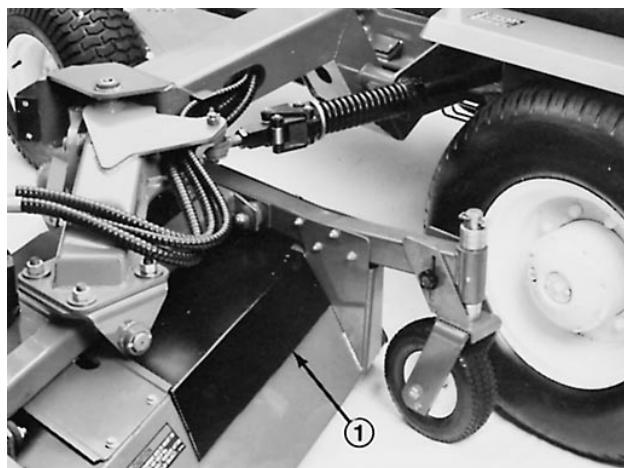

Figure 55
2. Remove the inner deck pulley cover (Fig. 55).